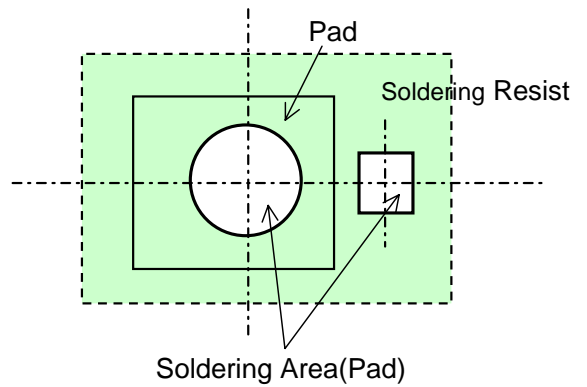

Fig.6 Soldering pad & resist pattern (for Example)
(1) For Large Package type
- The pads, except for soldering should be protected with solder resist as shown in Fig.6.